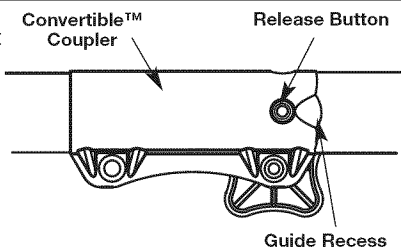
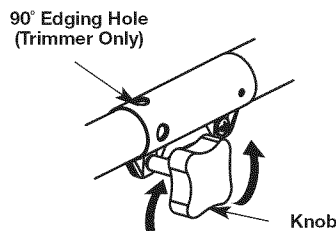

Fig. 2
Fig. 4
WARNING: Before operating this unit, be sure that the release button is fully snapped into the primary hole (Fig. 2), and that the knob (Fig. 4) is securely tightened.
1. Turn knob counterclockwise to loosen (Fig. 4).
NOTE: Aligning the release button with the guide recess will help installation (Fig. 2).
3. Turn the knob clockwise to tighten (Fig. 4).
NOTE: When using the line trimmer or other attachment to edge, lock the attachment release button into the 90° hole (Fig. 4).
1. Turn the knob counterclockwise to loosen (Fig. 4).
2. Press and hold the release button (Fig. 2).